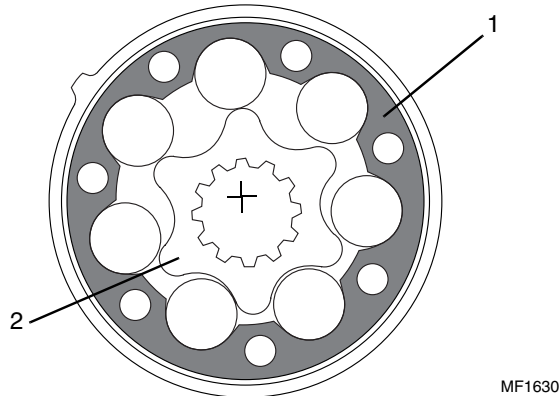

Figure 5-42 Gerotor Assembly
The outer ring of the gerotor assembly (Fig. 5-42, 1) is similar to an internal gear that is held in a fixed position by securing it to the motor housing. The rotating inner gear, called a star (2), orbits inside the secured outer ring.